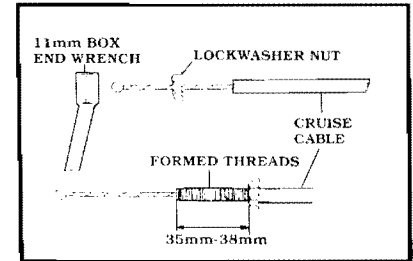

Figure 20
1. Before using the **FLAG NUT**, it will be necessary to form threads on the end of the **CRUISE CABLE**. This is easily accomplished by placing the **LOCKWASHER NUT** on the end of the **CRUISE CABLE** with your fingers. Then use an **11mm** box end wrench and turn clockwise until the desired amount of threads have been formed. **Figure 20, Page 15**
- Before using the SNAP-IN ADAPTOR, remove the Adjustable Sleeve from the CRUISE CABLE. To use the SNAP-IN ADAPTOR, it will be necessary to form threads on the end of the CRUISE CABLE. This is easily accomplished by placing the LOCKWASHER NUT on the end of the CRUISE CABLE with your fingers. Then using an **11mm** box end wrench and turning clockwise until the desired amount of threads have been formed. **Figure 20**
- Before using the LOCKWASHER NUT, remove the Adjustable sleeve from the CRUISE CABLE. Then use the LOCKWASHER NUT to form threads on the end of the CRUISE CABLE. This is easily accomplished by placing the LOCKWASHER NUT on the end of the CRUISE CABLE with your fingers. Then use an **11mm** box end wrench and turn clockwise until the desired amount of threads have been formed **Figure 20**.